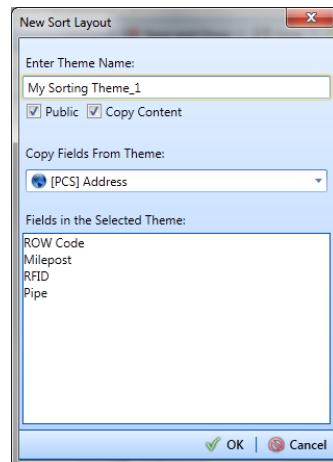

Figure 8-46. New Sort Layout
- 4 Click  **Add** to open the *New Sort Layout* dialog box (Figure 8-46, page 371).